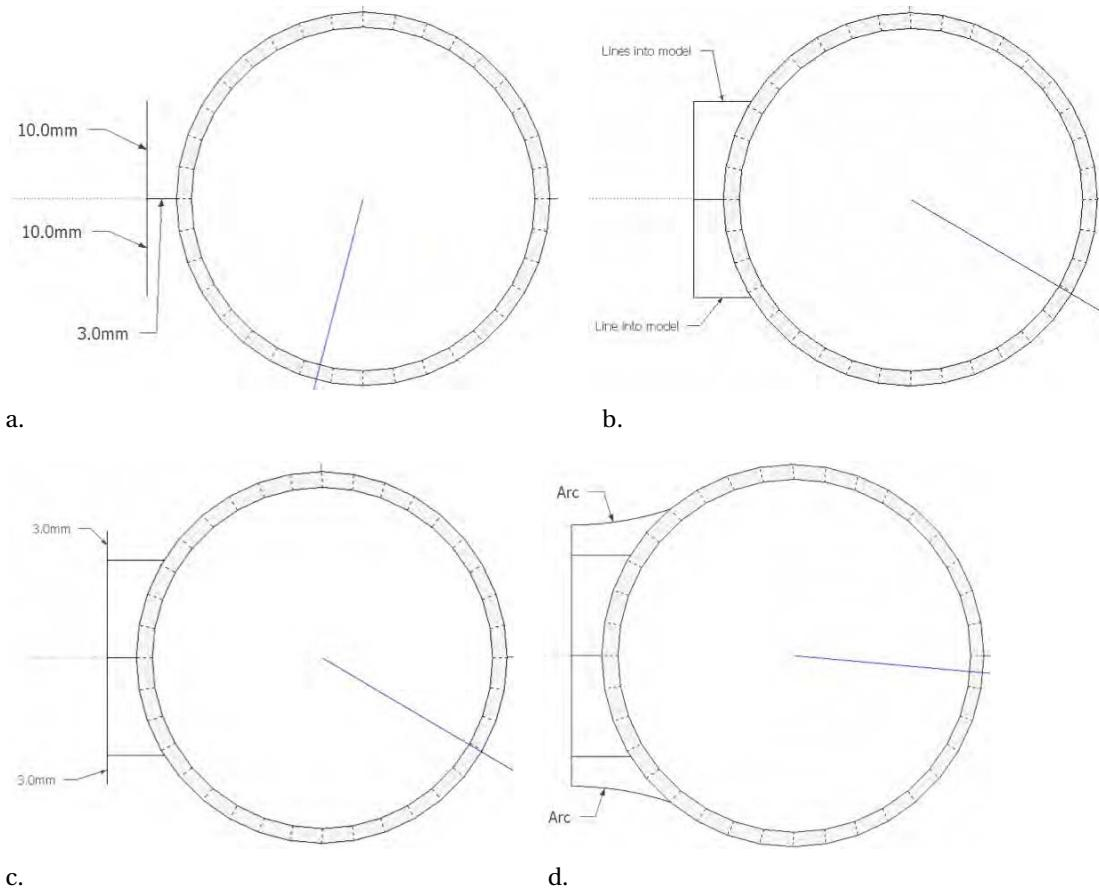

Figure 6–23. Creating the surface for the handle
5. Now create 3mm lines extending outward from both ends (Figure 6–23c).
6. Create arcs attached to the model (Figure 6–23d).